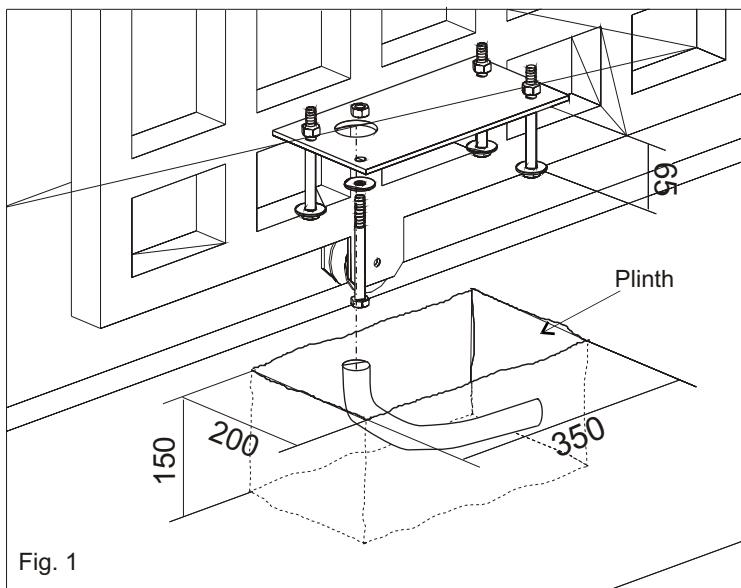

Fig. 1
- 2.1.** Have a mounting plate manufactured to the dimensions shown in Fig. 1. The plate will require to have concrete holding into which the foundation plate and the anchor bolts will be walled up. It is best if the gate structure allows the plate to be raised up from the finished level by 50 mm. This will stop water gathering around the operator.